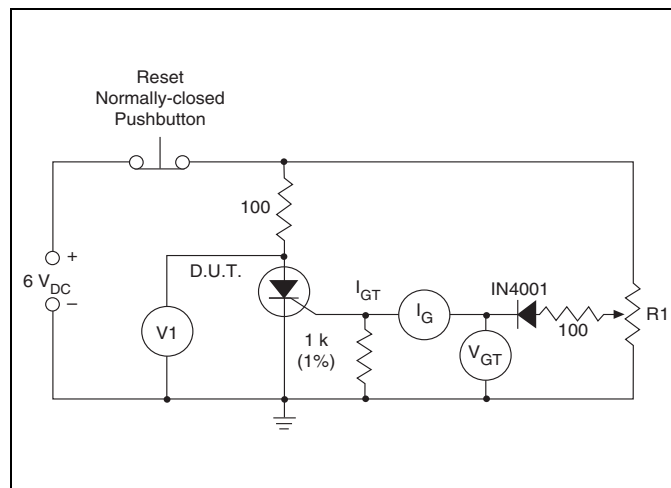

Figure E5.19 Simple Test Circuit for Gate Trigger Voltage and Current Measurement
- $V_D = 6 \text{ V}$ dc, $R_L = 100 \Omega$ (See Figure E5.19 for simple test circuit for measuring gate trigger voltage and gate trigger current.)